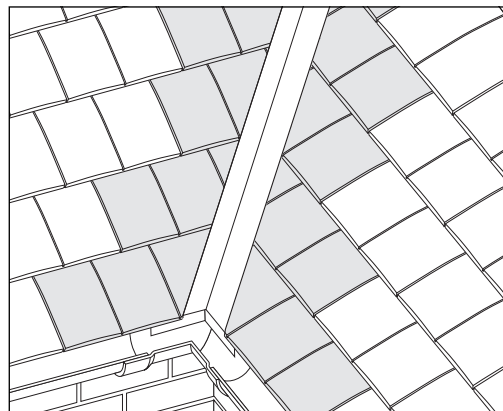

Fig 29 - Typical bedded valley. Tile and a half tiles shown shaded.
- 3 Bed raking cut tiles at edges of valley using mortar, ensuring that there is adequate space kept clear behind mortar to avoid water capillarity (Fig 29).